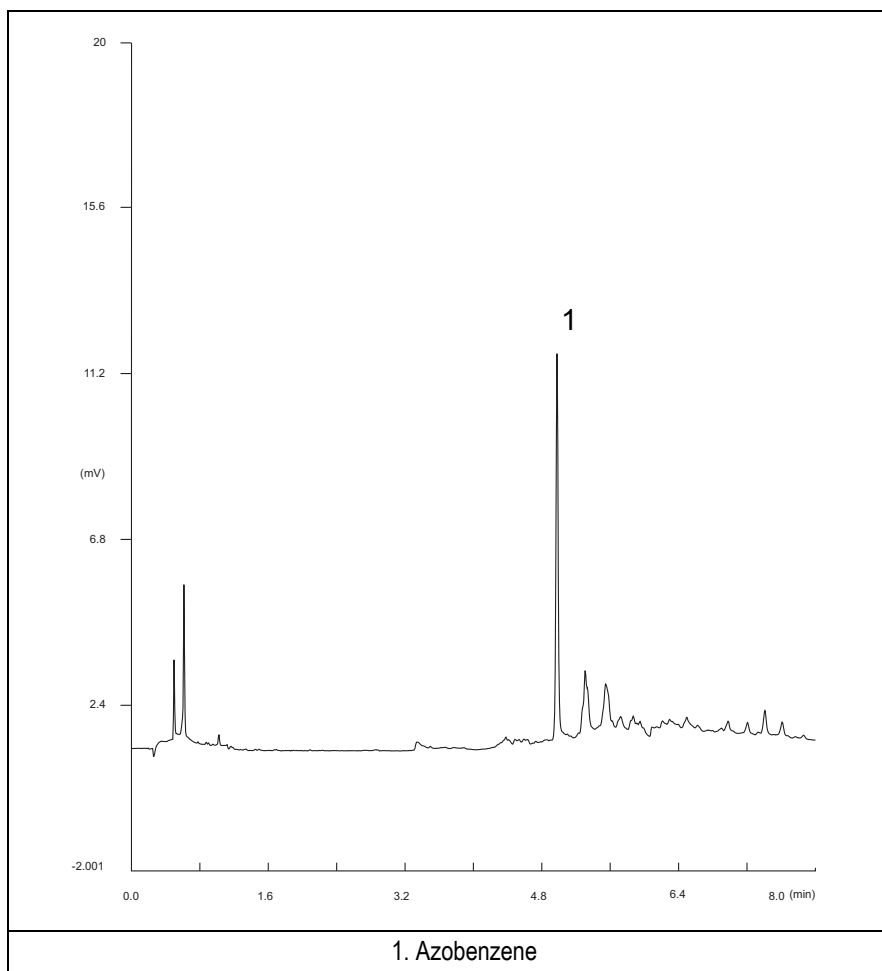

Figure 22-1. PID-Splitless Injection with 8.4 eV UV Lamp
13. Inject the test mixture and press **START** on the GC to begin the checkout run. The resulting chromatograms should look like the one shown in *Figures 22.1, 22.2, 22.3 or 22.4*.